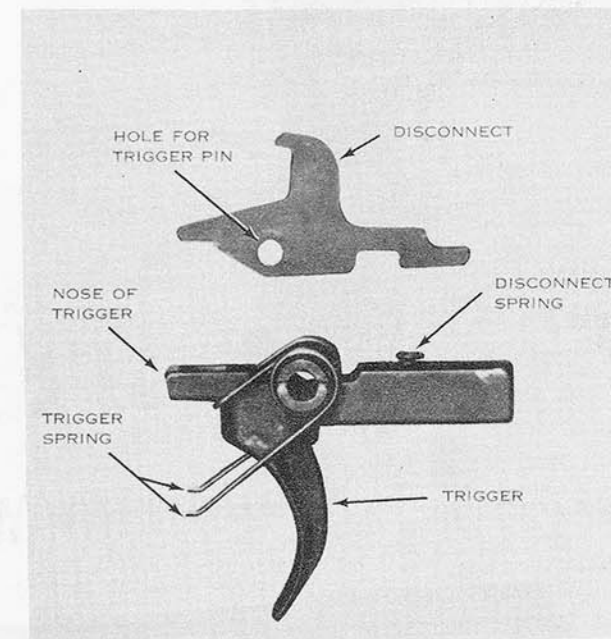

Figure 23. Trigger and disconnect separated.
**Caution:** The trigger and disconnect will jump out of the receiver under pressure of the trigger spring. Hold the trigger down with the thumb of the left hand when removing the trigger pin. Once the pin is removed, let the trigger rise slowly until no pressure is felt (fig. 22). Lift the trigger and disconnect out of the receiver and separate (fig. 23).